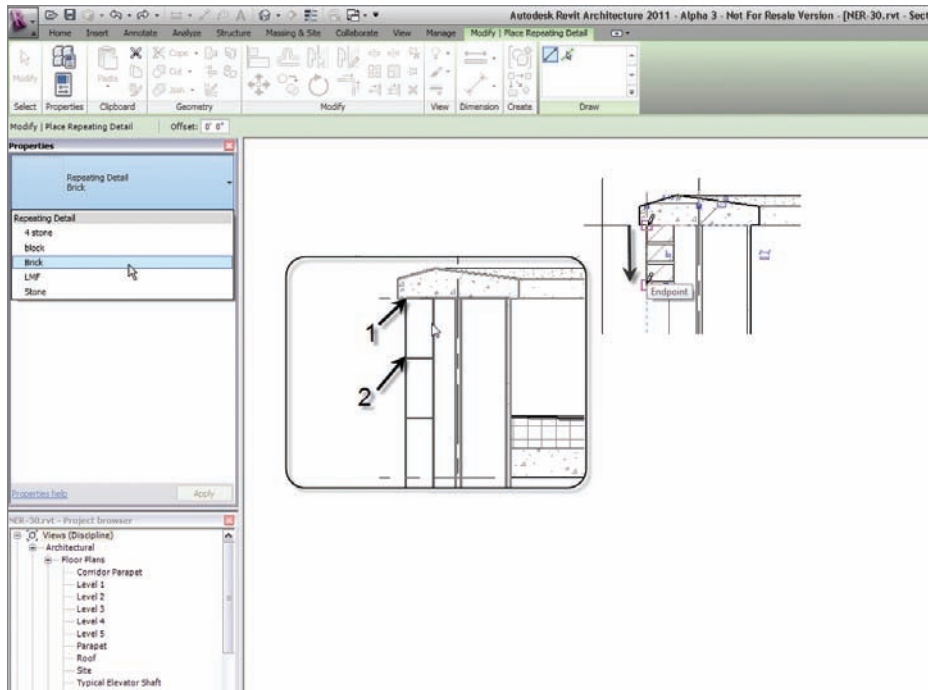

FIGURE 12.11 Adding the repeating detail based on the points shown
2. In the Properties dialog, choose Repeating Detail : Brick from the Type Selector, as shown in Figure 12.11.
3. Pick the point labeled "1" in Figure 12.11.
TIP Picking that point is going to be a little harder now that it's not there! The objective is to draw an actual façade based on the existing points where the Revit-generated brick once resided. When you hover your mouse over where the brick was, you will see the masked detail appear, as shown in Figure 12.11. Once it appears, you will see the point you need to pick.
5. Notice the brick is facing the wrong side. Press the spacebar to flip the brick into the wall, as shown in Figure 12.11.
6. Pick the point labeled “2” in Figure 12.11.